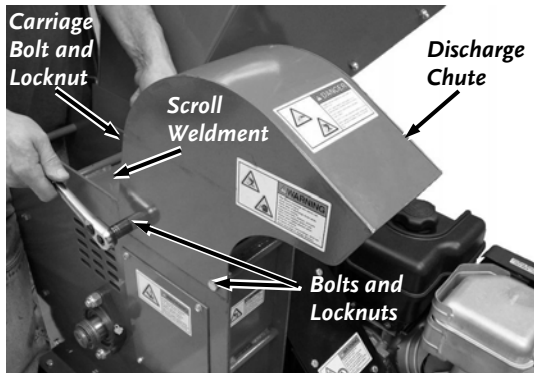

Figure 19
2. Remove the Carriage Bolt and Locknut from the back of the Discharge Chute (**Figure 19**).
NEVER PRY AGAINST THE SCROLL WELDMENT (FIGURE 19) WHEN REMOVING THE DEFLECTOR OR DISCHARGE CHUTE, OR AT ANY OTHER TIME. THIS WILL CAUSE DAMAGE TO THE MACHINE.
2. Install the Carriage Bolt and Locknut onto the back of the Discharge Chute (**Figure 19**).